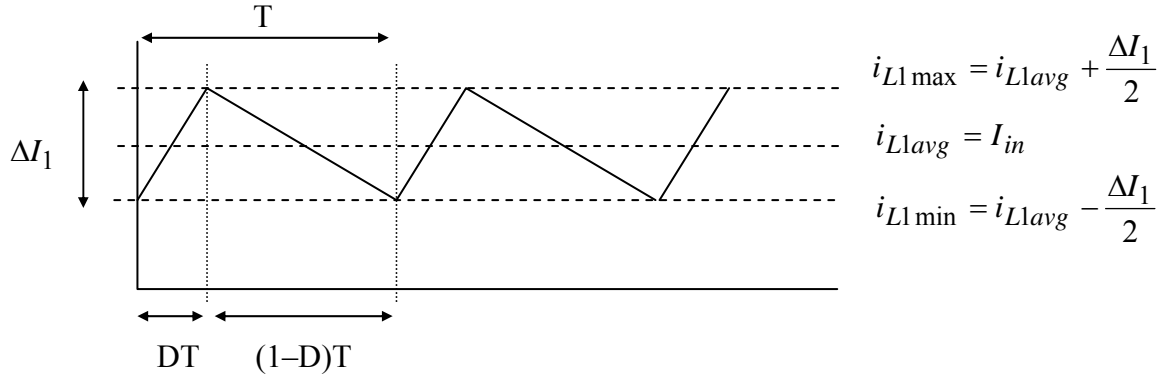
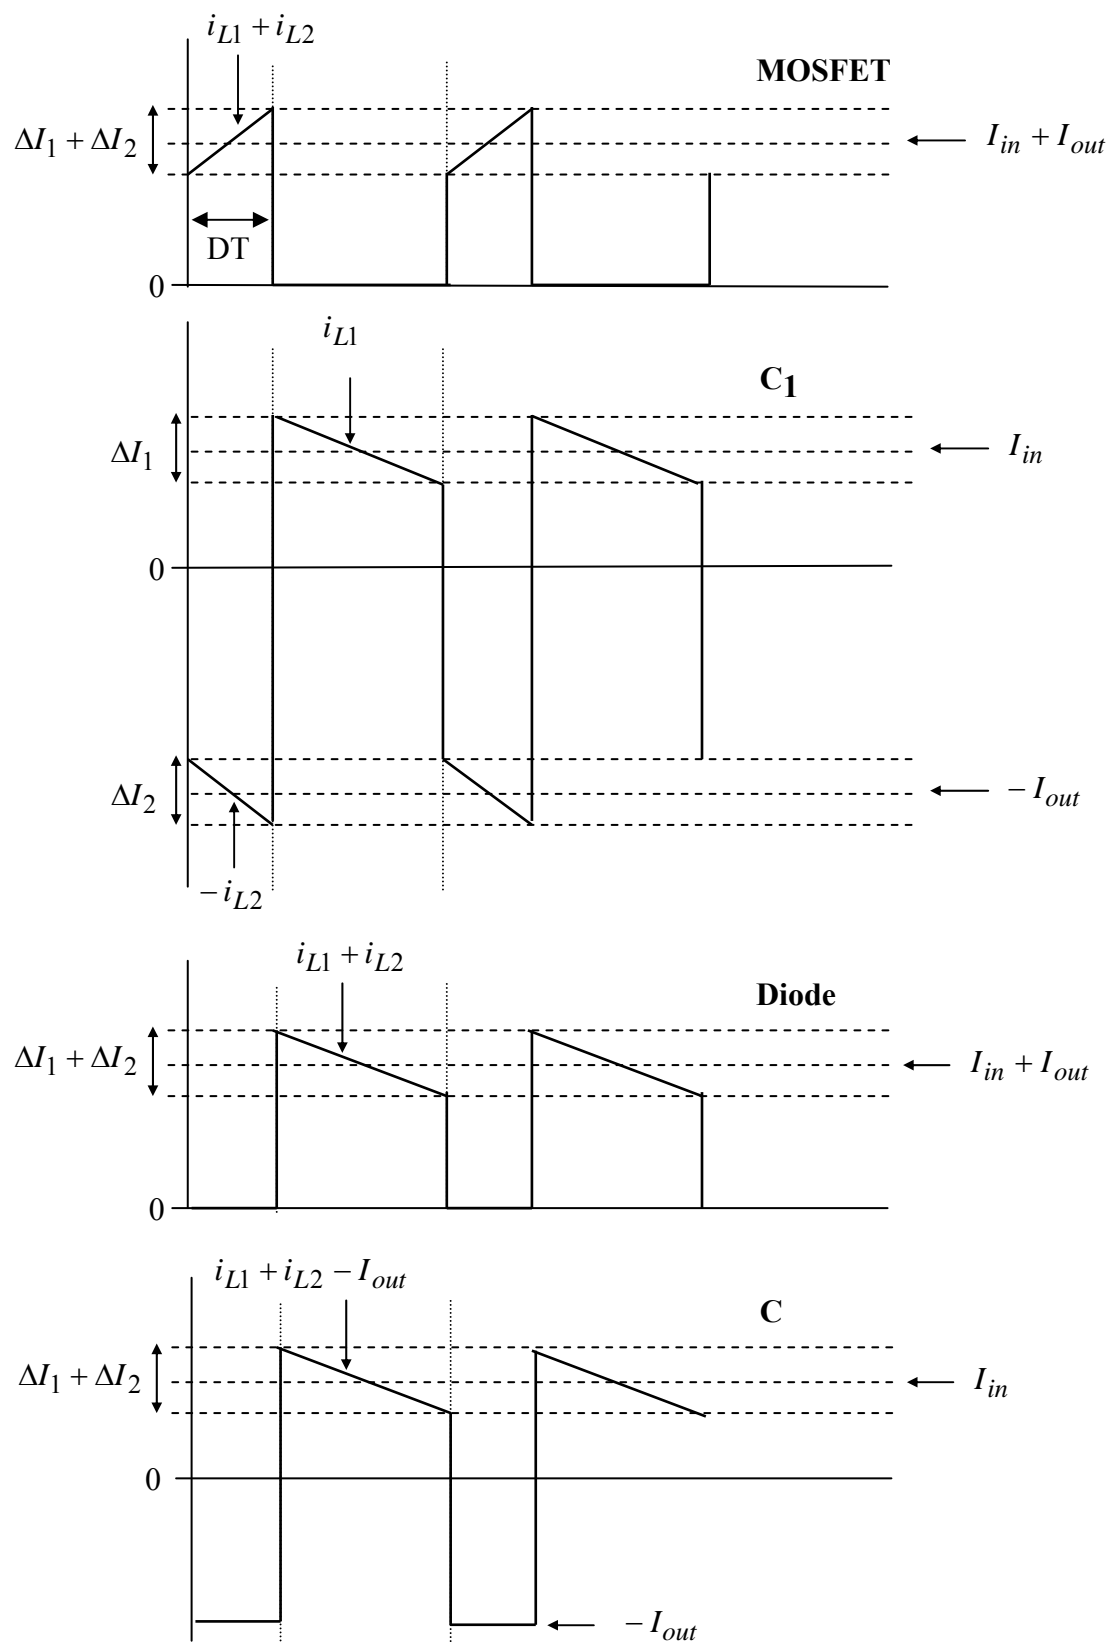

Figure 4. Inductor L_1 Current Waveform for Continuous Conduction
Figure 8. Current Waveforms for MOSFET, Capacitors, and Diode in Continuous Conduction
The graph of i_{L1} is shown in Figure 4. For PV applications, it is obviously desirable to have low ripple in i_{L1} to keep the solar panel operating at the peak of its maximum power curve.
From Figure 4 and Equation (3), when the switch is open (i.e., L_1 is “discharging”),
Continuous current waveforms for the MOSFET, the capacitors, and the diode in continuous conduction are shown in Figure 8 on the following page. Corresponding waveforms for the inductors were shown previously in Figures 4 and 6.
For the MOSFET and diode, assuming large worst-case D , and using Figure 8,
For C_1 and C , using Figure 8,
The maximum ripple voltage calculation for output capacitor C follows from Figure 8 and is the same as for the boost converter, namely
Comparing the current graphs for C_1 and C in Figure 8 during the DT “switch closed” period, it can be seen graphically that the ripple voltage on C_1 and C are the same, i.e. Equation (22).